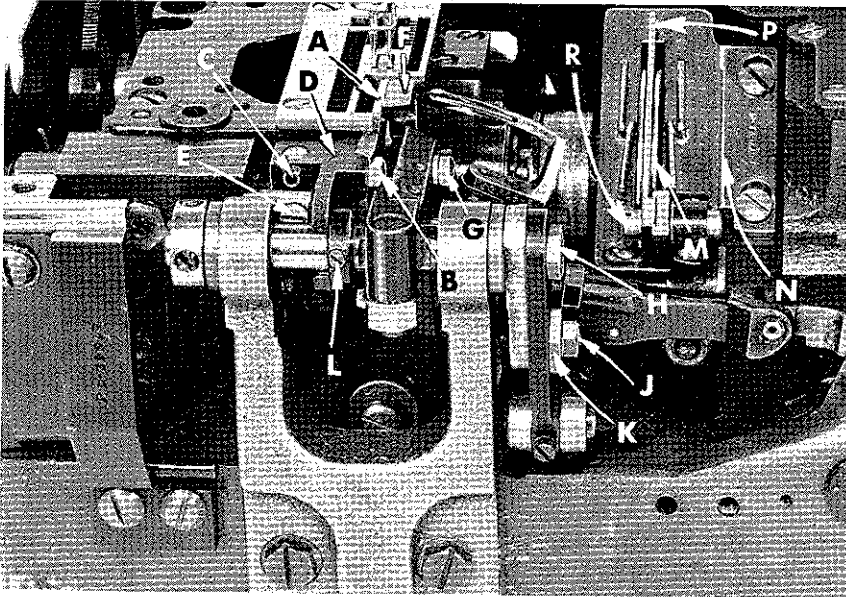
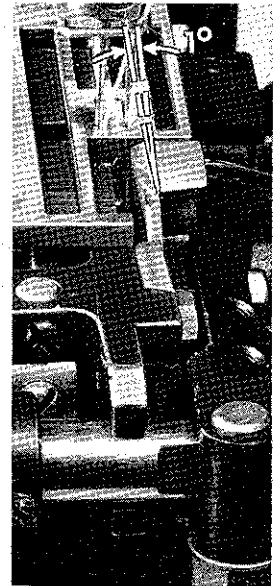

Fig. 18
Fig. 18A
The lower knife (A, Fig. 18) should be set with cutting edge flush with throat plate surface, at approximately a one degree shear angle (Fig. 18A). Adjustment can be made by loosening hexagonal head screw (B, Fig. 18) permitting lower knife to be moved up or down; loosening (2) screws (C) will allow positioning of lower knife block (D) to obtain the proper shear angle. Never loosen screw (E) for adjusting purposes, it should remain tight at all times. After adjustments are made, tighten screws (B and C) securely.
The upper knife (F, Fig. 18) should be set to align its cutting edge with the centerline of right needle and to engage lower knife for full cutting length. This can be accomplished by loosening screw (G) permitting upper knife to be moved forward or rearward; loosen screws (H and J) and turn eccentric (K) as required to obtain proper positioning for up and down movements. Retighten screws securely.
With upper knife in UP position, set and lock collar (L, Fig. 18) so it barely contacts lower knife block (D).
The looper thread take-up (M, Fig. 18) is not spotted on the main shaft and, consequently, can be set to compensate for varying conditions. It is set correctly when the looper thread is just cast off the highest lobe of the take-up when the point of the left needle is clearly visible below the underside of the looper. The cast-off plate assembly (N) is adjustable, and its setting determines the amount of thread pulled off by the take-up. Moving the cast-off plate assembly up towards the bottom of the screw slots causes more thread to be pulled from the cones, and moving the cast-off plate assembly down towards the top of the screw slots causes less thread to be pulled. The cast-off plate assembly is set correctly when the looper thread just becomes taut as the looper reaches its extreme position to the left. Additional looper thread control can be obtained by raising or lowering the retaining finger (P) which is secured by screw (R). The retaining finger should be centered in the take-up disc with its bottom edge set parallel to and approximately  $\frac{3}{16}$  inch (4.76 mm) above cast-off plate assembly.